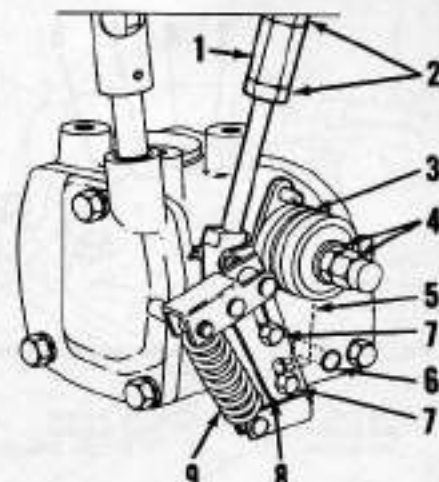

Fig. 230—View of linkage control lever and related parts in position to adjust linkage control lever.
**408. QUADRANT CONTROL LEVER ADJUSTMENT.** Select **POSITION** on selector dial and move quadrant lever forward (**LOWER**) until it is 3 mm (1/8-inch) from end of its travel. Loosen jam nuts (2—Fig. 230) and turn adjuster (1) until plate (5) contacts pin (6). Tighten jam nuts (2) securely against adjuster (1).